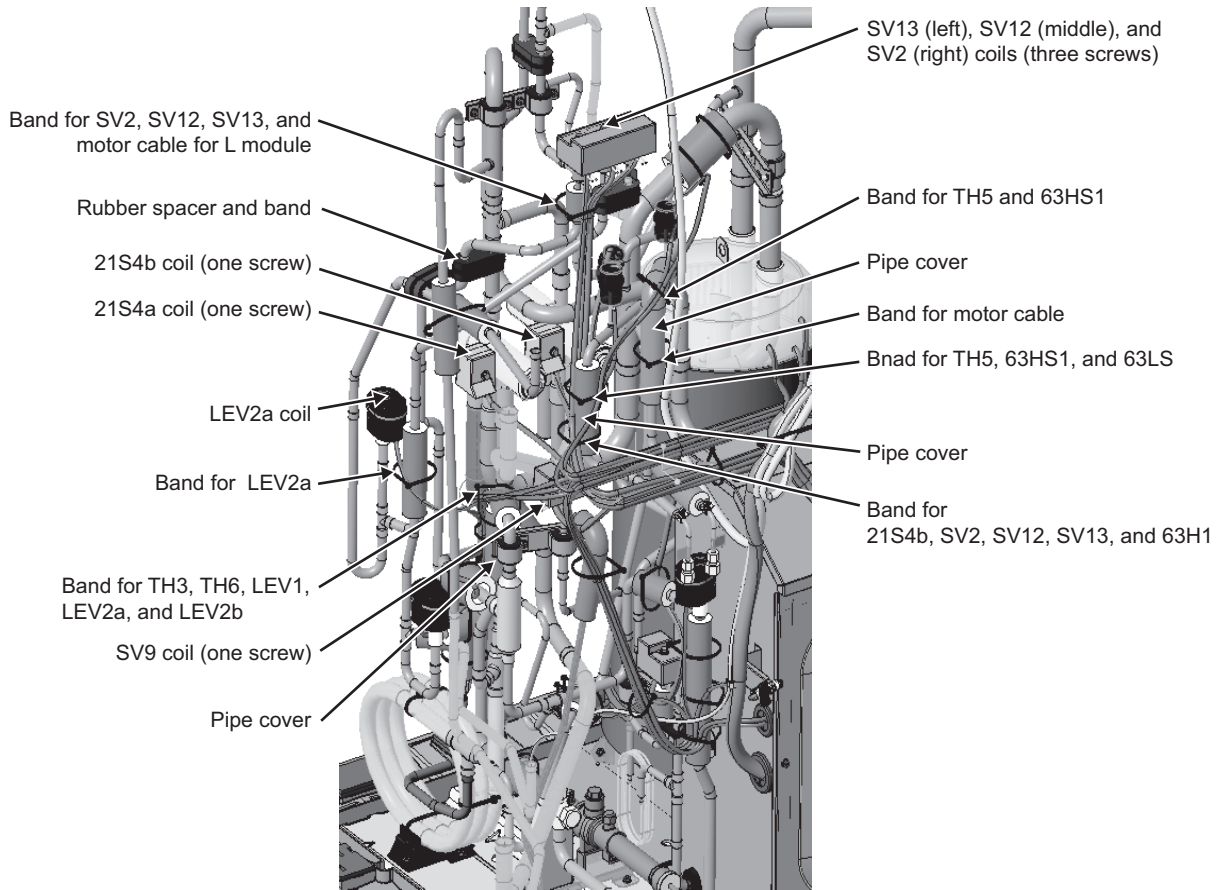
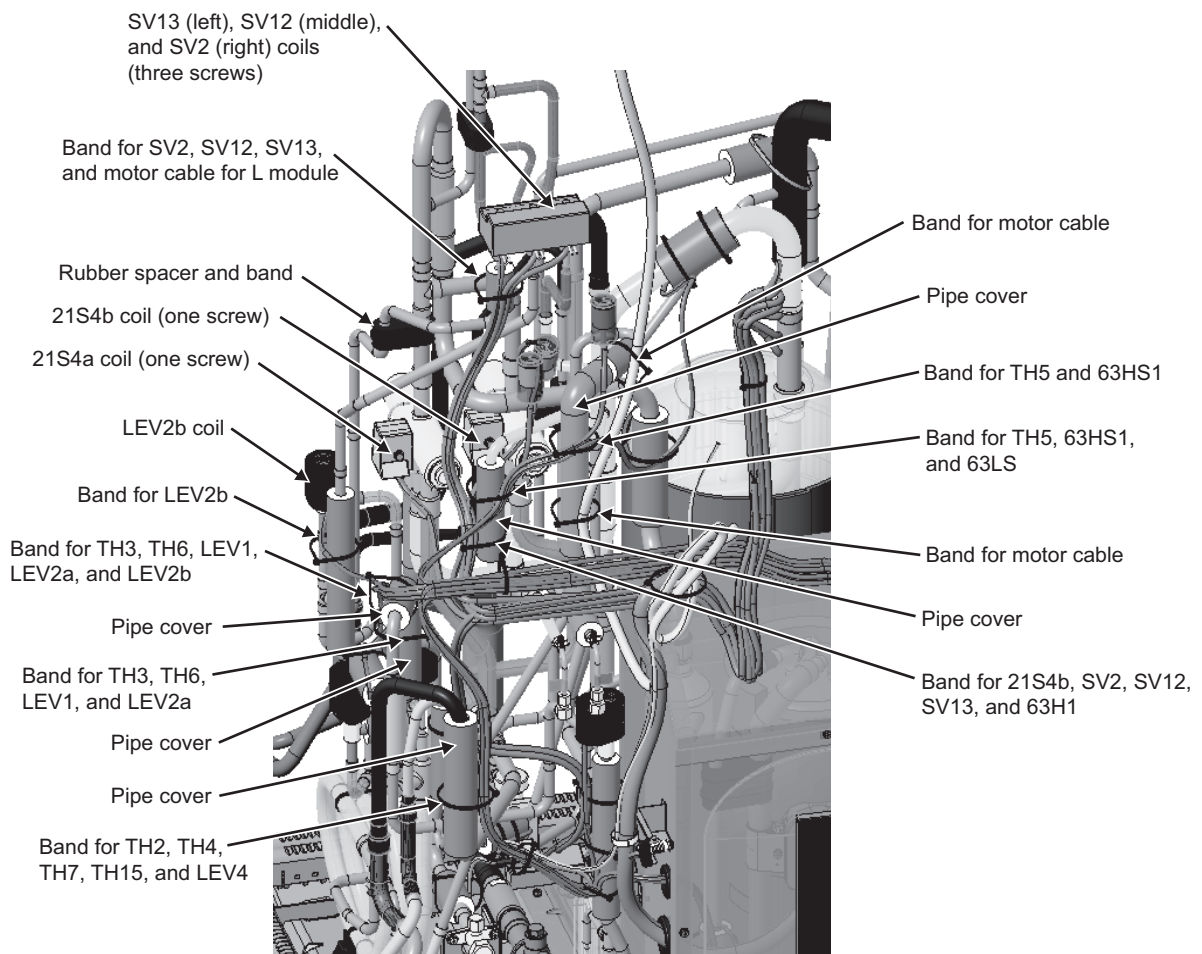

Fig. 1
Fig. 2
- (1) Remove the four-way valve coils, LEV coils, coil covers, coil caps, pipe covers, rubber spacers, and bands. (Fig. 1 and Fig. 2)